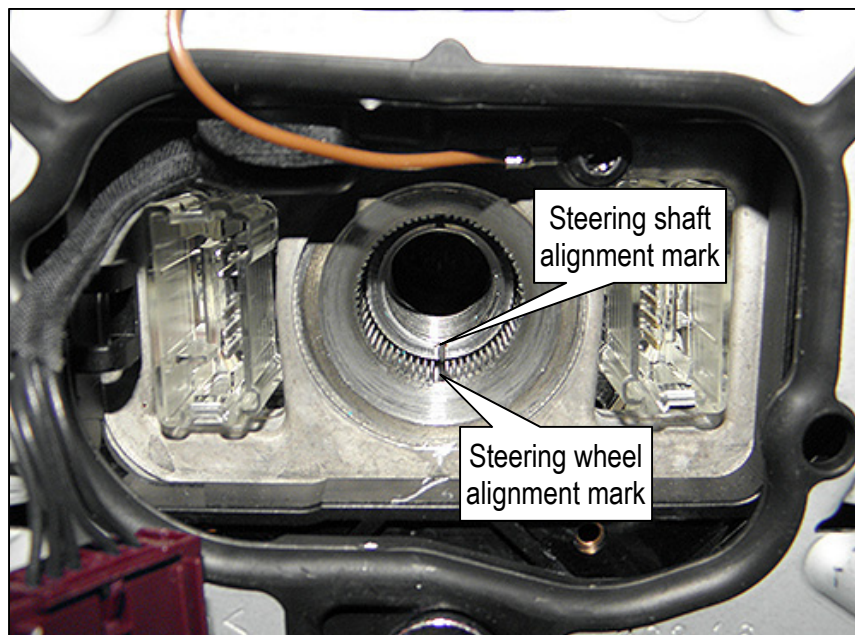

Figure 12
**IMPORTANT:** Before removing the steering wheel, note the location of the steering wheel and steering shaft alignment marks. The correct alignment is shown in Figure 12.